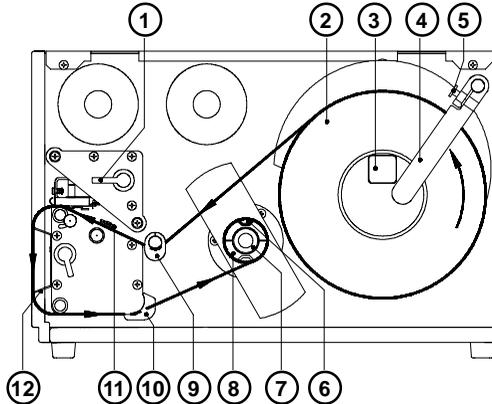

Figure 8n Inserting the labels
1. Lift printhead by turning the lever (1) clockwise until it stops.
2. Loosen knurled screw (5), then swing the media retainer (4) backwards.
3. Place the media roll (2) onto the media hub (3). Swing the media retainer (4) against the media hub and inwards until it rests against the side of the roll (roll will slightly be slowed down when unwound). Tighten knurled screw (5).
5. Unroll a length of stock from the media roll and feed along as shown in Figure 8n.